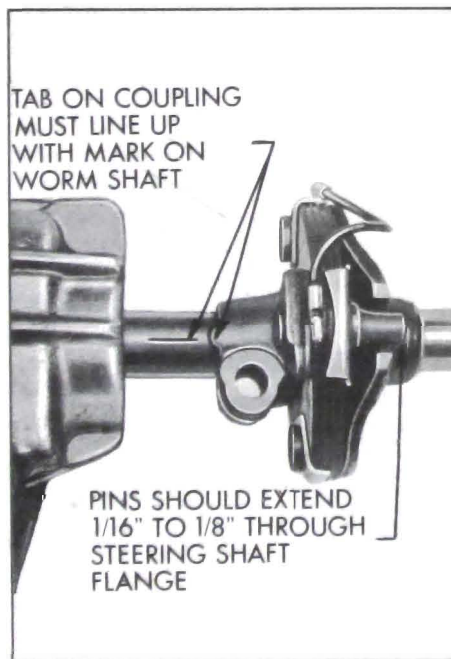

Figure 8-12—Correct Worm to Lower Coupling Attachment
5. Position lower coupling on worm shaft so that tab on coupling flange lines up with mark on shaft. See Figure 8-12.
IMPORTANT: Mast jacket must be positioned so that lower coupling pins are extending through steering shaft flange 1/16" to 1/8". See Figure 8-12.